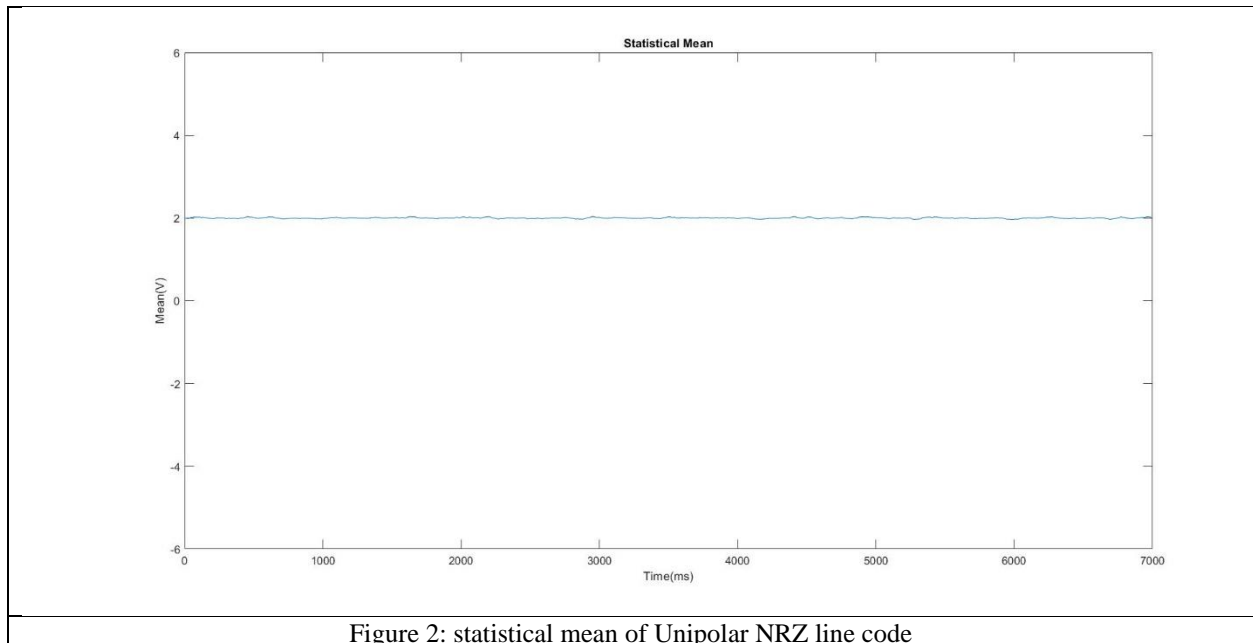

Figure 2: statistical mean of Unipolar NRZ line code
From figure 2, we can observe that statistical mean is constant and approximately equal to **2**.
1. Back to figure 2, we can find that the mean is constant over the time.